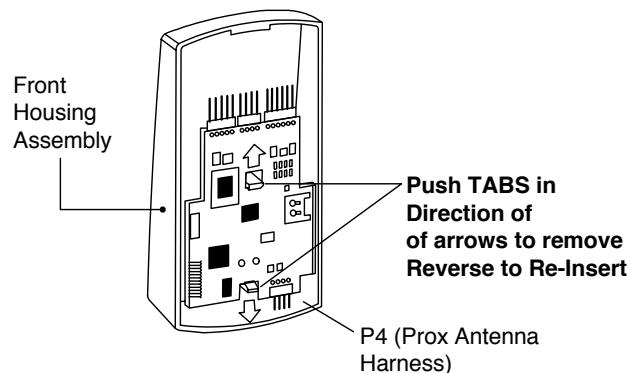

Figure 5 Removing/Inserting Printed Circuit Board
- When handling the main printed circuit board, to guard against possible static discharges, touch a grounded object BEFORE touching the WM800 unit. Remove the main printed circuit board by pressing the two spring tabs in the direction of the arrows as shown in Figure 5. Be careful with the wires.